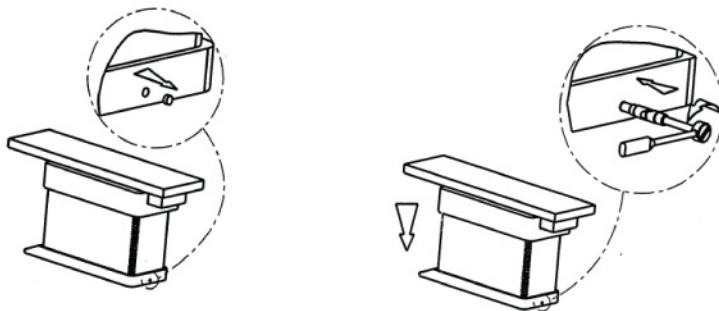

Figure 58 Couch Crank Area (Left) and Hand Crank (Right)
5. Remove the cap from the lower-rear-center portion of the lift base (Figure 58.).